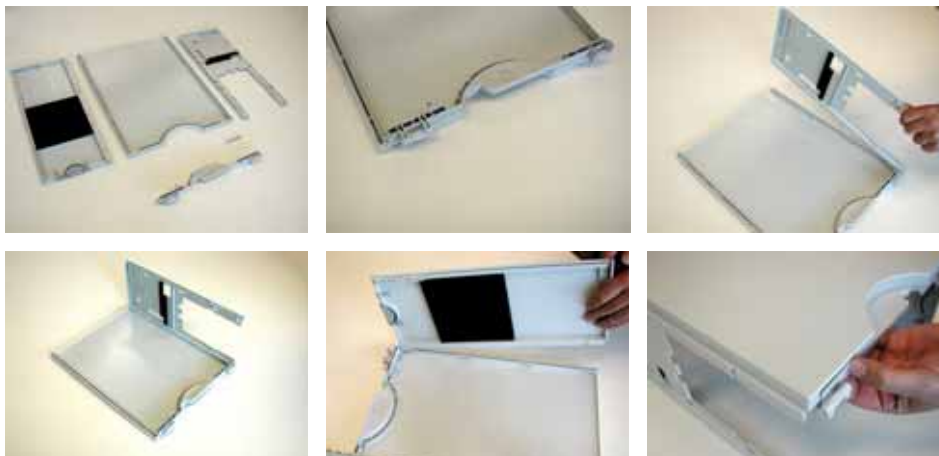

Figure 6 Assembling the new cover
- 7** Assemble the new plastic cover (see Figure 6).